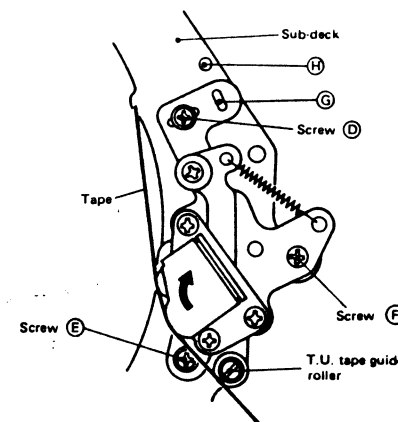
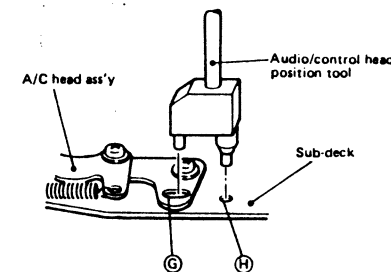

Fig. 2-50
Fig. 2-51
- Loosen the three screws (D), (E) and (F) and slide the audio/control head assembly fully in the direction of the drum (indicated by the arrow) as shown in Fig. 2-50.
- Slightly tighten the three screws (D), (E) and (F) and play staircase segment of the alignment tape MH-2.
- Set the audio-control head position tool (PUJ44653) as shown in Fig. 2-51.